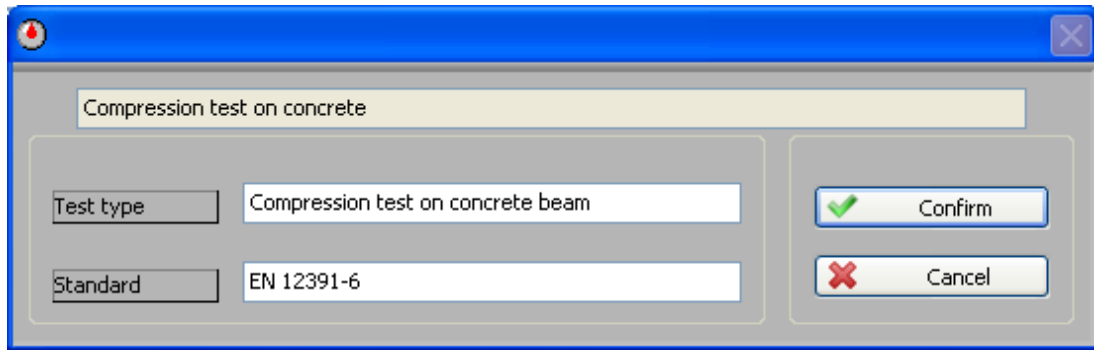

Fig. 6-11
7. In the next window, enter a name for the new test type and the standard it is based on and then click the **Confirm** button (see Fig. 6-11).